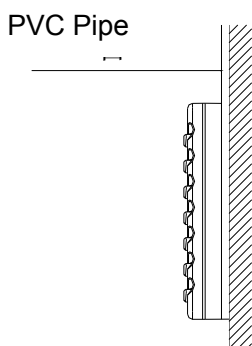
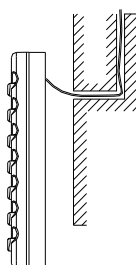

Fig 6 Surface Mounting of Cable
Fig 7 Concealed mounting of Cable
Connect the joints for swing flap motor lead wire (at 2 places) installed on the panel (Refer to Fig.7)
- 2、If the communication line between the wire controller (85 ×85 ×16) and the indoor unit is surface-mounted, use 1# PVC pipe and make matching recess in the wall (refer to Figure 6); If concealed installation is adopted, 1# PVC pipe can be used (Refer to Figure 7).